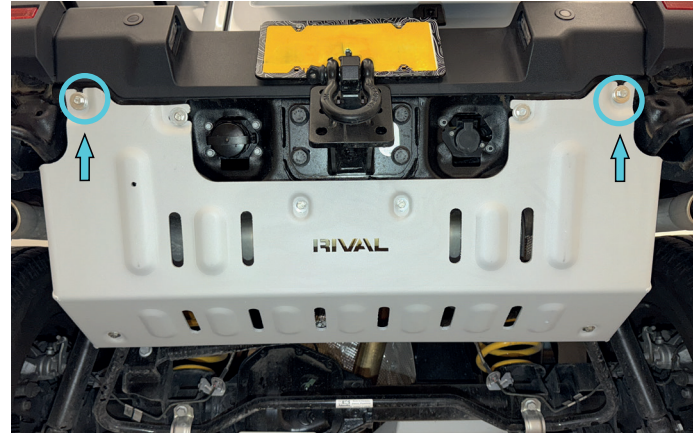

Fig. 2
2. Slide rear part of muffler skid plate(item 1) to previously installed bolts and secure using M8x1x25 bolts with M8 & M10 washers (items A,B,C) as shown in fig.2.